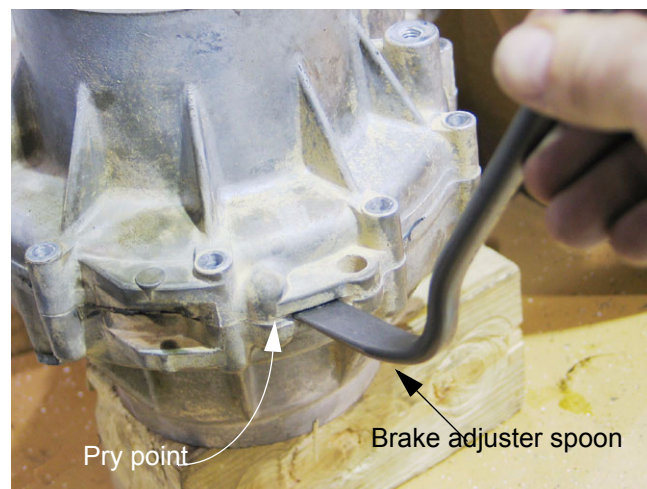

Figure 9.29
- 9.29. Use the pry-point recesses that are cast into the housings to separate the the two halves of the transmission case. See Figure 9.29.